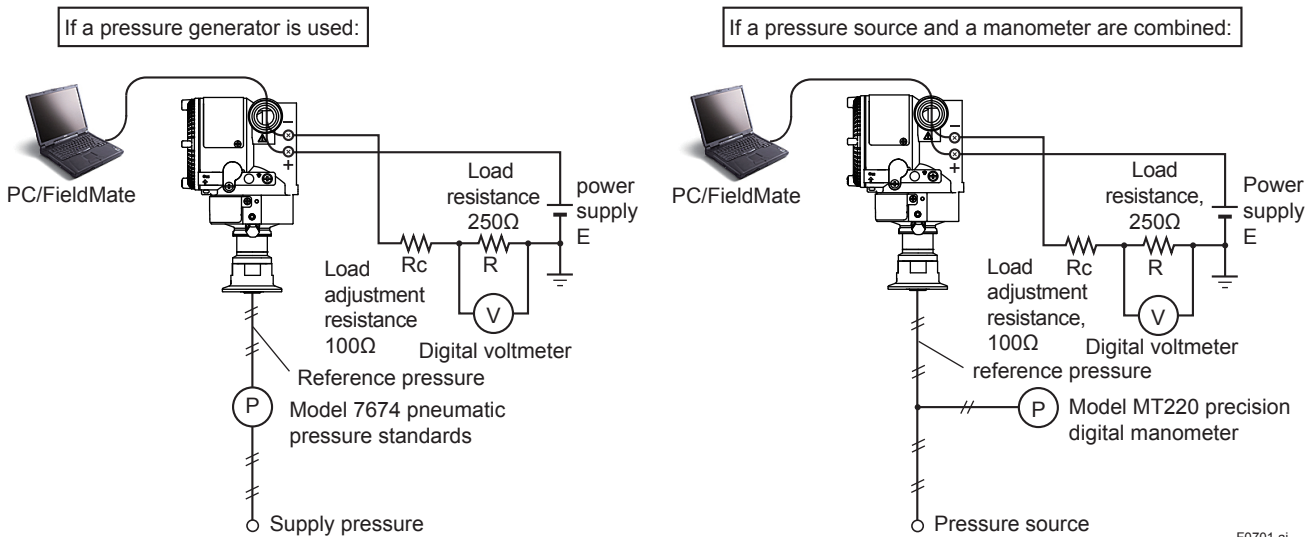

Figure 7.1 Instrument Connections (4 to 20 mA output)
- 1) Connect the transmitter and apparatus as shown in Figure 7.1 and warm it up for at least five minutes.
- 1) Connect the instruments as shown in figure 7.1 and warm up the instruments for at least five minutes.